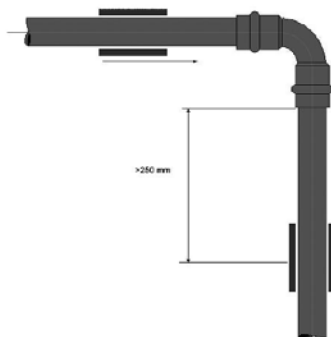

Figure 7.5
2. It is also important to note that the sliding supports are not positioned to ensure that they behave as if they were fixed points. (fig. 7.5)